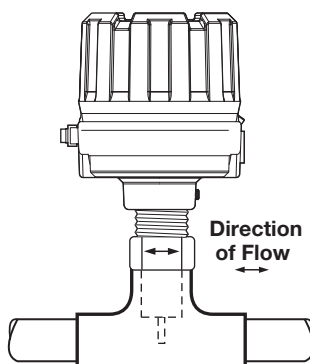
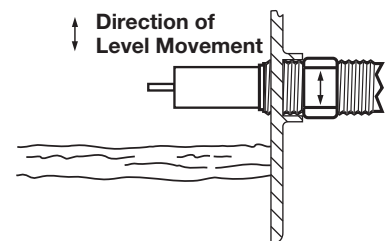

Figure 3
Figure 5
2. Make sure the sensor is properly oriented to the flow (refer to Figures 3 and 4) or level (refer to Figure 5).